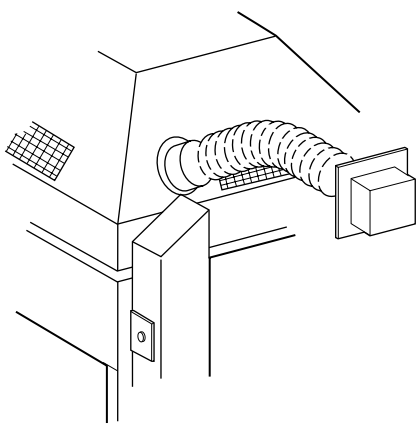

Figure 27
Step 5. Remove one of the knockouts from either the left or right side of the fireplace transition. Attach the 4" (102 mm) collar from the FOAK-4 chimney air kit to the transition, using the four (4) No. 8 x 1/2" screws provided (Figure 27).